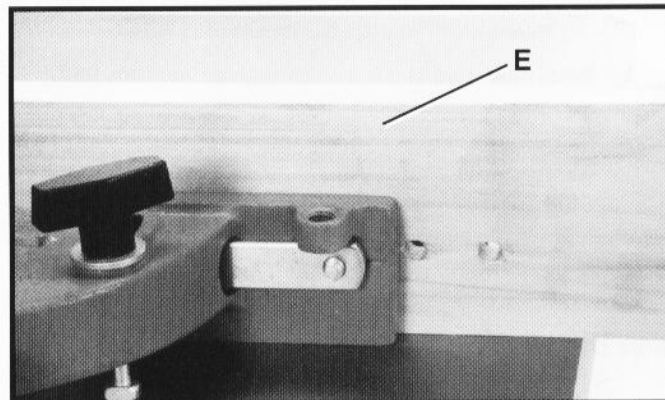

Fig. 11
4. Fig. 11 illustrates one section of the wooden fence (E), fastened to the fence casting. Assemble the other wooden fence section in the same manner.